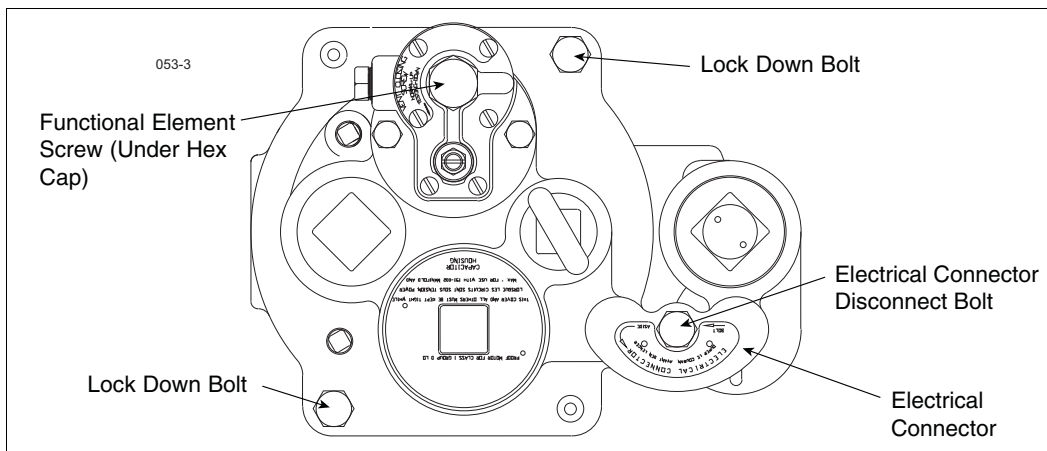

Figure 6. Packer
2. Back out the electrical yoke disconnect bolt (see Figure 6).